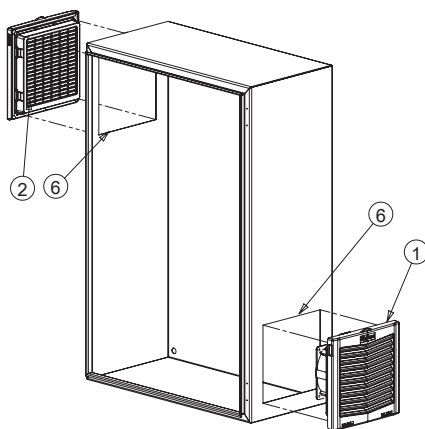

Figure 2
4. Insert fan or grille and push into opening until **all four corners are snapped and locked**. See Figure 2.
9. Install the grille as shown in Figure 2